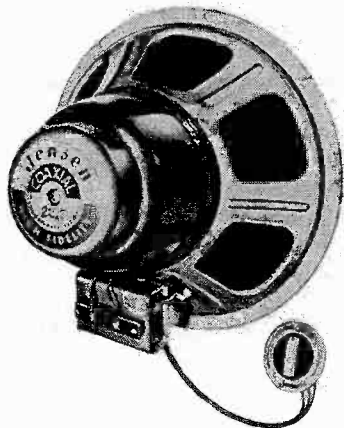

Fig. 2. Coaxial speaker with crossover network and level control for tweeter.
2) *Interference holes.* Woofers and tweeters don't stop operating suddenly above or below their nominal operating ranges. The cutoff slope for most crossover networks is 12 db per octave, which means that the speaker may put out audible energy two octaves away from the theoretical crossover point. Since a separate woofer and tweeter are at least 8 to 12 in. apart, and the two sections of a coaxial speaker (Fig. 2) a few